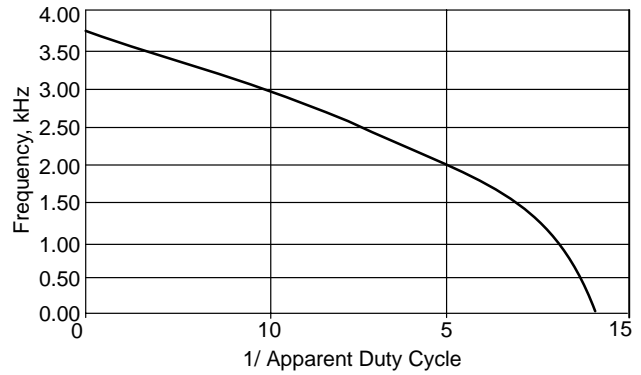

Figure 15. Normalized Input Filter Capacitor Ripple Current
- Calculate Input Filter Capacitor Ripple Current. Use the chart in Figure 15 to calculate the normalized ripple current ( $K_{RMS}$ ) based on the reciprocal of Apparent Duty Cycle. Then multiply the input current by  $K_{RMS}$  to obtain the Input Filter Capacitor Ripple Current.